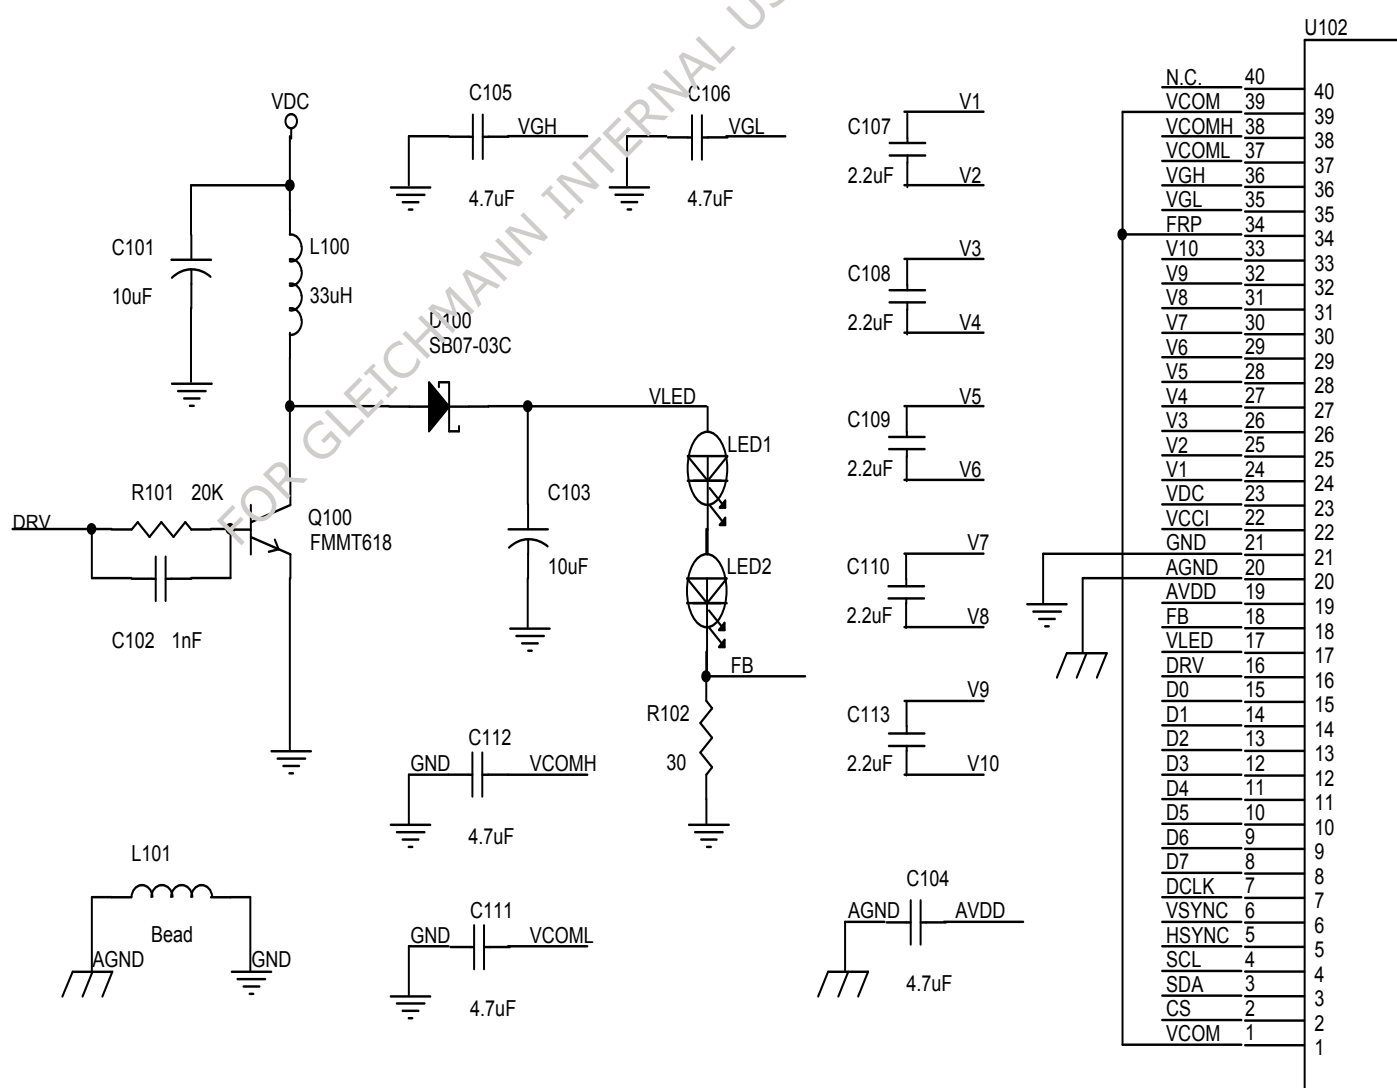

Fig.12 Typical Application Circuit
The integrated driver IC provides build-in LED booster controller, DC-DC charge pump, and Vcom driver. See Fig. 12 for the application circuit.
According to Fig. 12, the L100, Q100, D100, and C103 together form the LED boost converter. The converter with 0.6V feedback (FB) and R102 provides a constant 20mA current for the LED backlight unit. The boost converter switching signal DRV is generated based on the divided frequency of DCLK. Therefore, the DCLK input is required for LED driver operation, and the absence of DCLK signal during normal operation will set the driver IC into standby mode. A low ESR capacitor for C103 is recommended in order to reduce voltage ripple of VLED. The built-in LED boost controller is default active, and it is able to be turned off by setting the register SHDB1 to low. The LED booster circuit may cause the wave-like phenomenon. In order to reduce the phenomenon, AGND and DGND (system GND) and LED booster circuit GND must be separated.